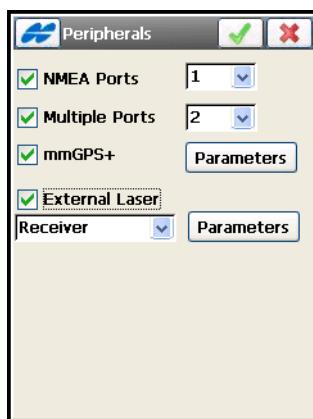

Figure 3-26. Rover Receiver Options
- **Peripherals** – opens the *Peripherals* screen with four options to select *NMEA Ports*, *Multiple Port*, *mmGPS+* or/and *External Laser* (Figure 3-26 on page 3-26).
If Multiple Ports mode is selected, depending on the number of ports selected (Figure 3-26 on page 3-26), there can be two **Rover Radio** screens to configure radios for data input (Figure 3-32).